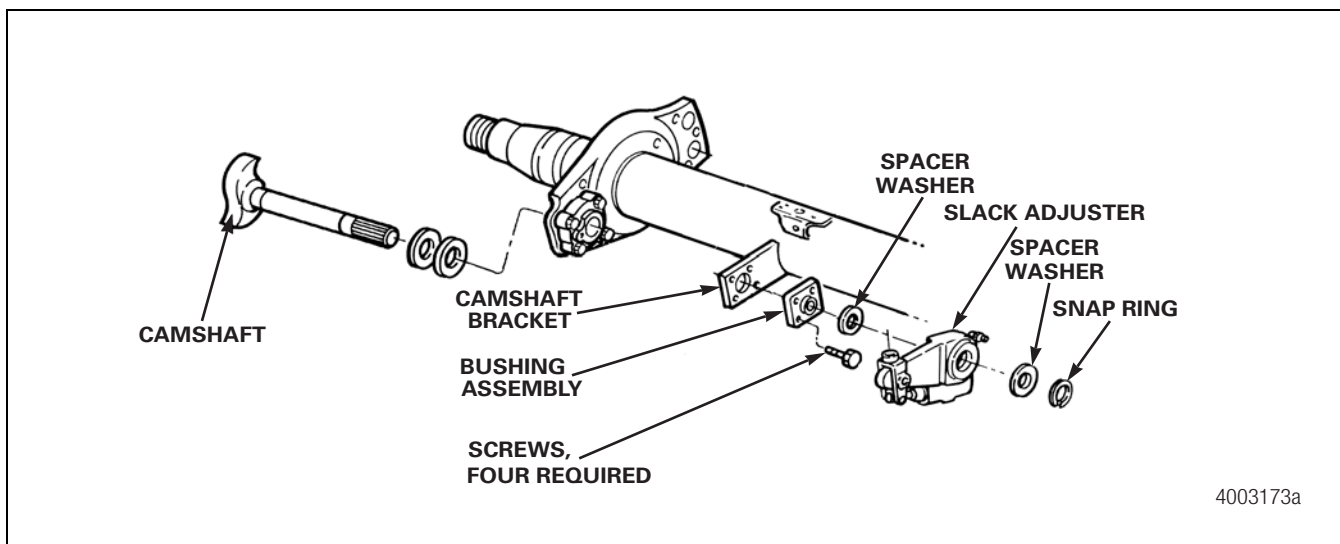

Figure 3.15
7. Remove the snap ring, slack adjuster and spacer washers from the camshaft spline. Figure 3.15.